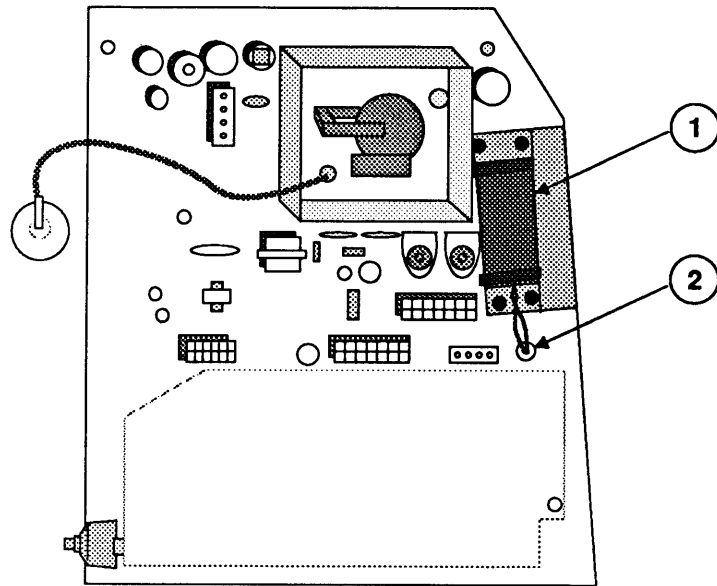

FIGURE 45
1. Orient the new (axial) fan assembly (Figure 45, #1) so that the holes in the bracket match the screw holes on the analog board.
3. Route the two fan wires through the hole below the fan on the analog board (Figure 45, #2).
6. Replace the fish paper by reinstalling the arrow clips. (Do not put an arrow clip in the hole shown in Figure 45, #2.)